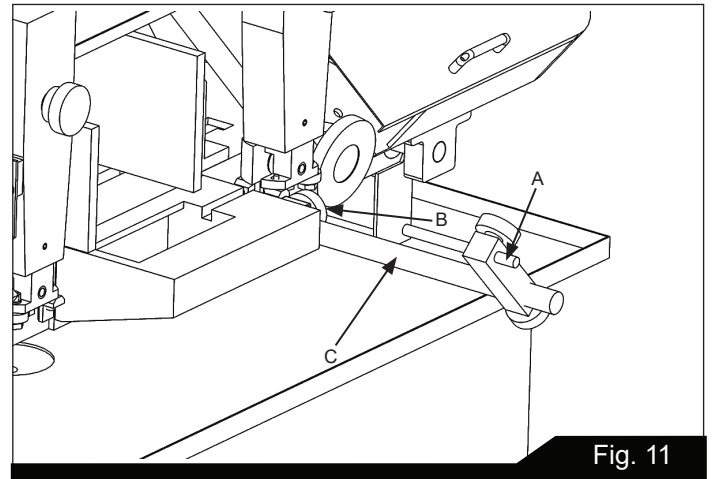

Fig. 11
The Stock Advance Stop is used mainly when more than one piece is to be cut to the same length. Simply position the stop block (A) Fig. 11, the desired distance away from the blade.